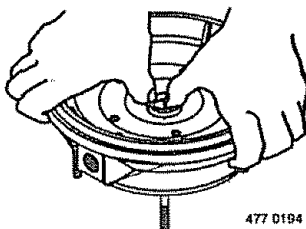

Figure 23 – Press in New Seal
2. Put clean cardboard washer on seal face. With thumb pressure, press ceramic seal half firmly and squarely into seal cavity in seal plate (see Figure 23). Polished face of ceramic seat is up. If seal will not seat correctly, remove, placing seal **face up** on bench. Reclean cavity. Seal should now seat correctly.